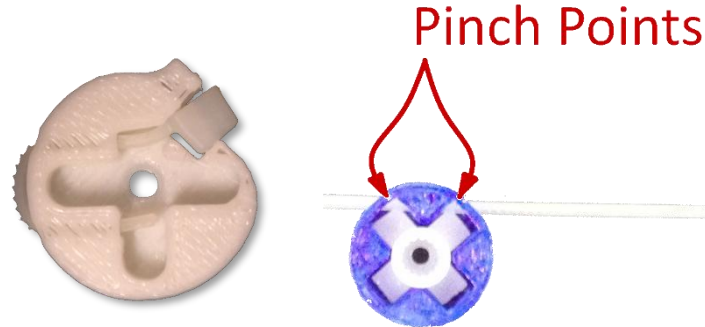

Figure 16: Zip-tie receiver installed in servo spool (left), and zip-tie installed in thumb servo spool (right)
2. Install a zip-tie in the servo spool as per Figure 16.